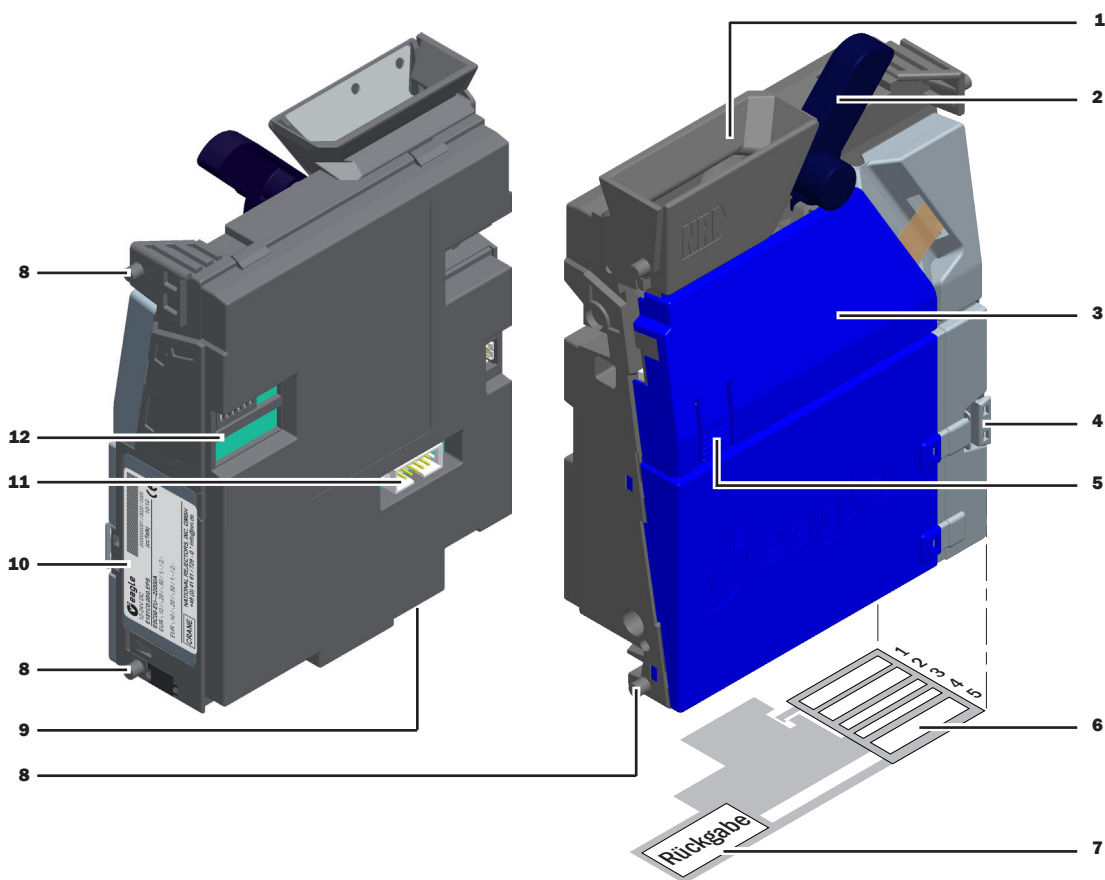

Fig. 1: Design
**[Fig. 1/2]**
The label of the coin validator [Fig. 1/10] contains all data defining the device, such as device number and type, operating voltage and customer-specific currency and coin programming:
The coin validator has two switch blocks [Fig. 1/12] with ten DIL switches each (S1.1-10 and S2.1-10) on the rear of the device. The DIL switches can be used to set certain device functions:
The return lever [Fig. 1/2] on the top of the device is operated using the return button on the machine when coins which have been inserted are to be returned or e.g. a jam caused by coins which have become stuck needs to be removed. Actuation of the return lever opens the measurement and validation area of the coin validator so that all objects in the coin validator are directed to the return area.
For details of the machine interface [Fig. 1/11] please refer to Chap. 10 Technical data, p. 35.